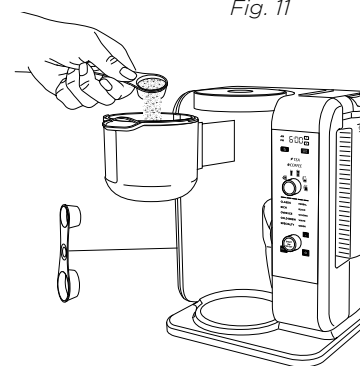

Fig. 12
- 3 Use the Ninja Smart Scoop™ and follow the measurements in the chart to fill the brew basket (Fig. 12). These measurements vary based on level scoops—adjust to your preferred taste. We suggest using a medium-sized grind if grinding whole beans.
- 3 Use the Ninja Smart Scoop™ and follow the recommended measurements in the chart to fill the brew basket, adjusting to your preferred taste (Fig. 12).